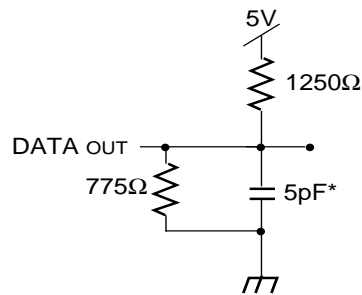

Figure 2. Output Test Load (for tHZ, tLZ, twz, and tow)
1. Transition is measured ±500mV from Low or High-impedance voltage Output Test Load (Figure 2).
1. Transition is measured $\pm 500mV$ from Low or High-impedance voltage with Output Test Load (Figure 2). This parameter is guaranteed by device characterization but is not production tested.
7. This parameter is determined by device characterization, but is not production tested. Transition is measured +/- 500mV from steady state with the Output Test Load (Figure 2).